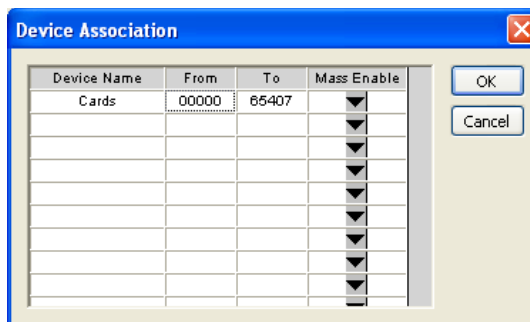

Figure 34
1. From the SYSTEM INFO screen, click the DEVICE ENABLE button on the tool bar. The default Device Association window will appear (Fig 34).